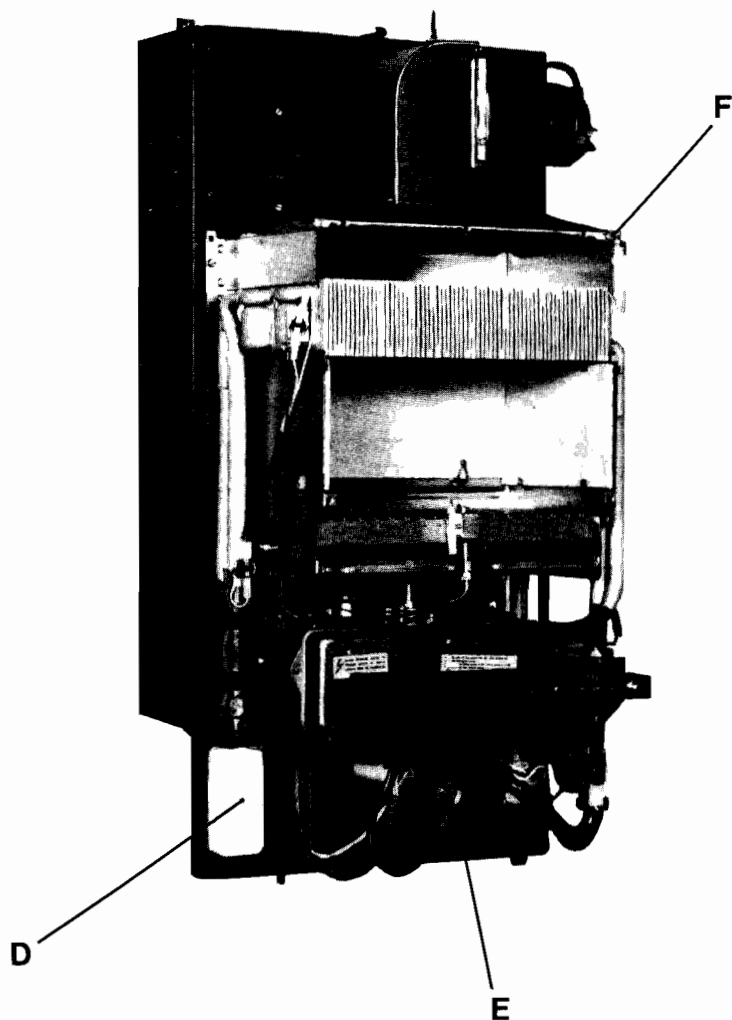

Fig. 5
1. Remove the terminal box screw and take off cover (D. Fig 5).
- c. Bleed off the air from all radiators and from the circulating pump by removing the front screw plug (see E - Fig. 5). Loosen the manual air vent screw (see F - Fig. 5) and fill to the required pressure.